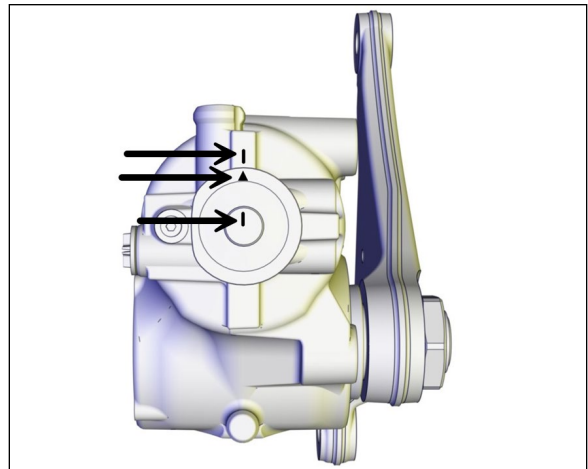

FIGURE 38: MARKS ON THE INPUT SHAFT, THE PROTECTIVE CAP & THE HOUSING
2. Align the steering gear input shaft marks (Figure 38).